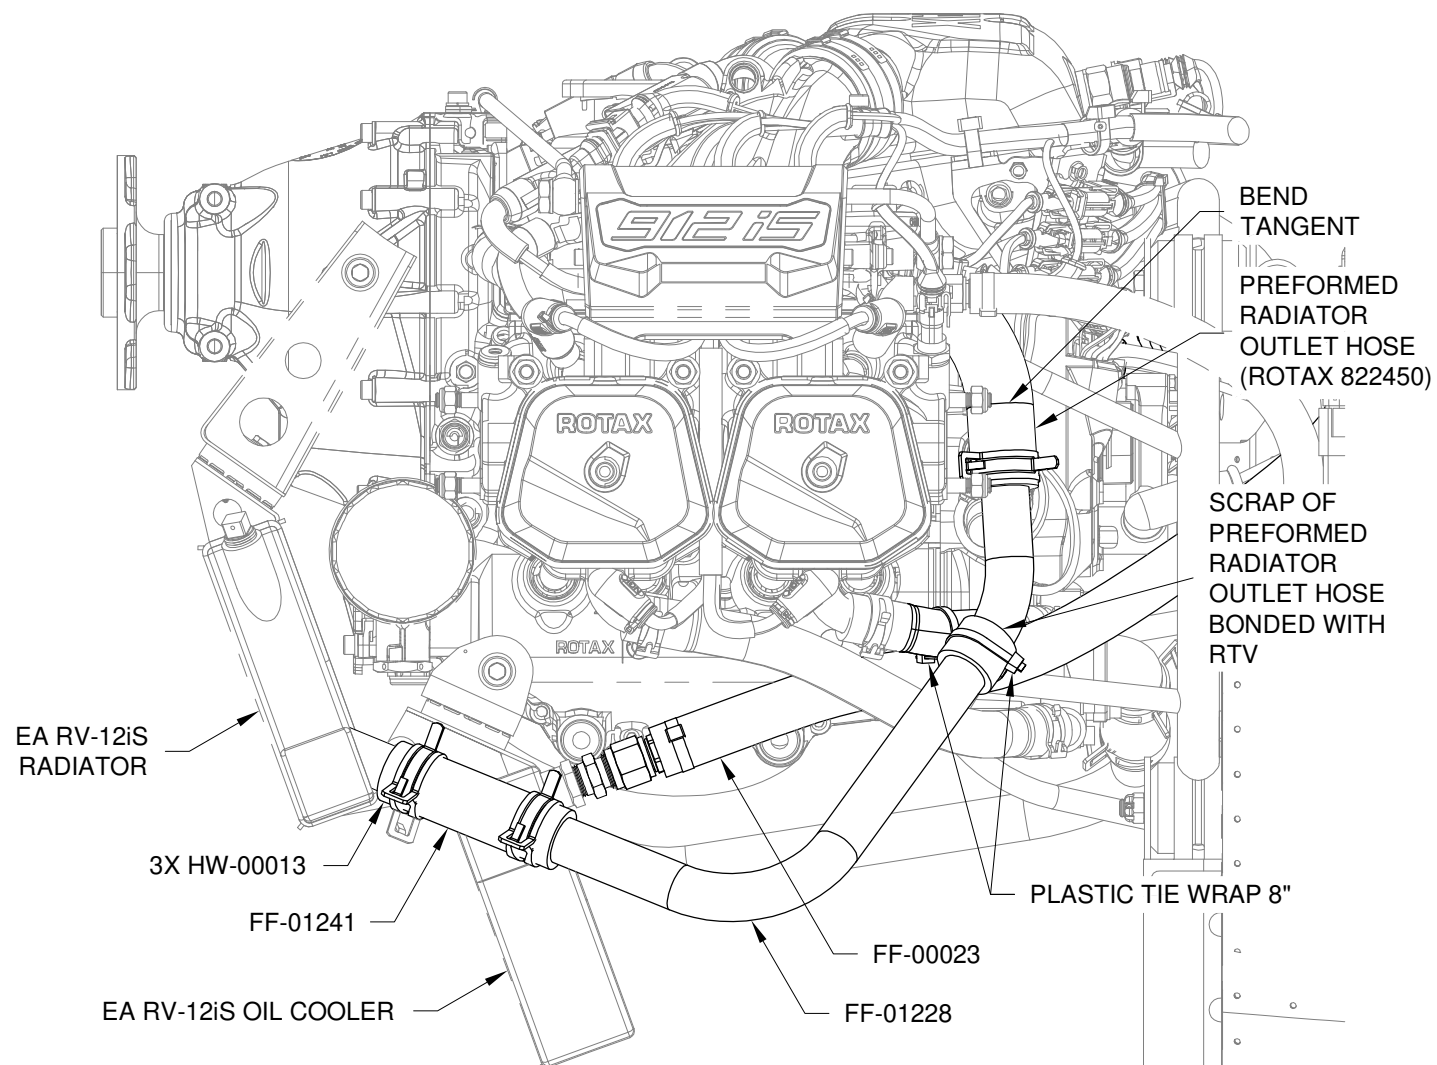

FIGURE 1: RADIATOR & OIL HOSES - LEFT SIDE (iS ONLY)
Step 13: Attach the FF-01228 to the EA RV-12iS RADIATOR with a FF-01241 as shown in Figure 1.
Step 14: Bond a 1 in. [25.4 mm] long scrap of preformed radiator outlet hose to the FF-01228 with RTV as shown in Figure 1.
Step 15: Secure the FF-01228 to the #4 cylinder coolant hose with two tie-wraps as shown in Figure 1. Place a layer of RTV between the tie-wrap and the scrap of preformed radiator hose.